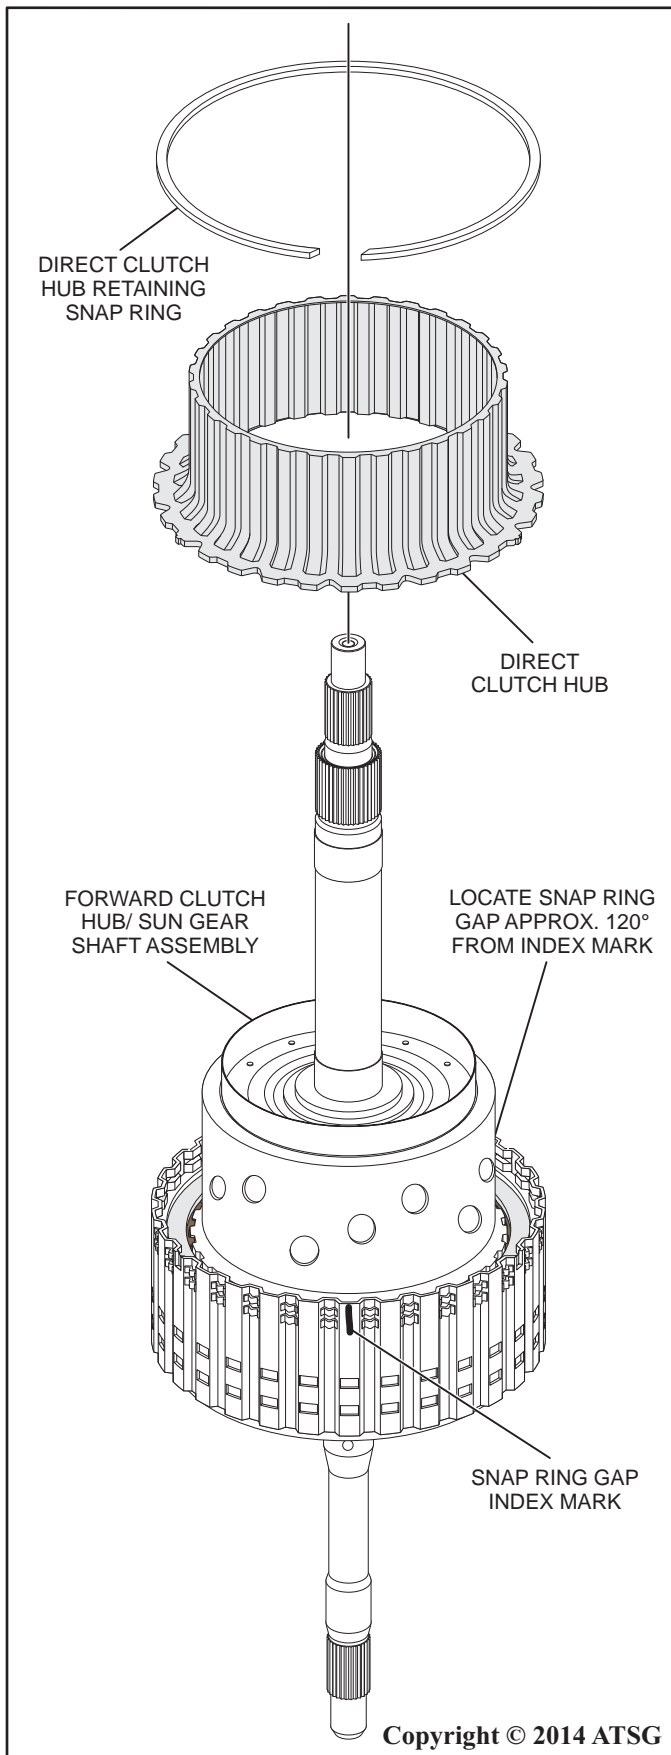

Figure 96
57. Install the forward clutch hub/sun gear shaft assembly as shown in Figure 96, making sure hub is indexed fully into each clutch.
58. Install a new direct clutch hub into the forward clutch housing as shown in Figure 96.
59. Install a new direct clutch hub retaining snap ring approximately 120° from the index mark in the drum as shown in Figure 96.